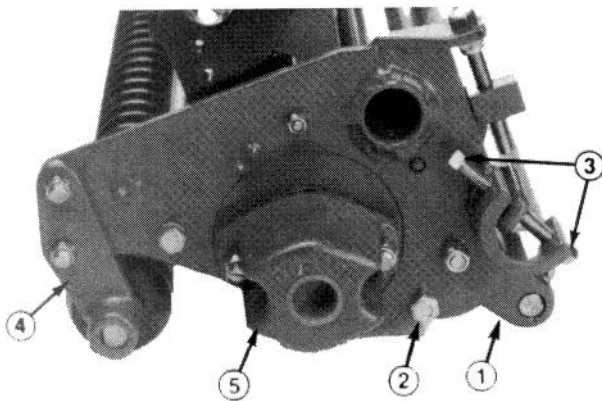

Figure 10
1. Remove the capscrew and nut anchoring the rear roller height-of-cut bracket to the side plate on both ends of the cutting unit (Fig. 10).
4. Remove the bedbar mounting bolts from each end of the cutting unit (Fig. 10). Then loosen the bedknife adjusting screws at each end of the cutting unit (Fig. 10). The bedknife assembly can then be removed by rotating it away from the reel.
1. Remove the locknuts securing the front roller brackets to the side plates at both ends of the cutting unit (Fig. 10).
- A. Remove the mounting nuts from the counterbalance end cap and remove end cap from the mounting studs (Fig. 10).
2. Remove the counterbalance end cap (Fig. 10).